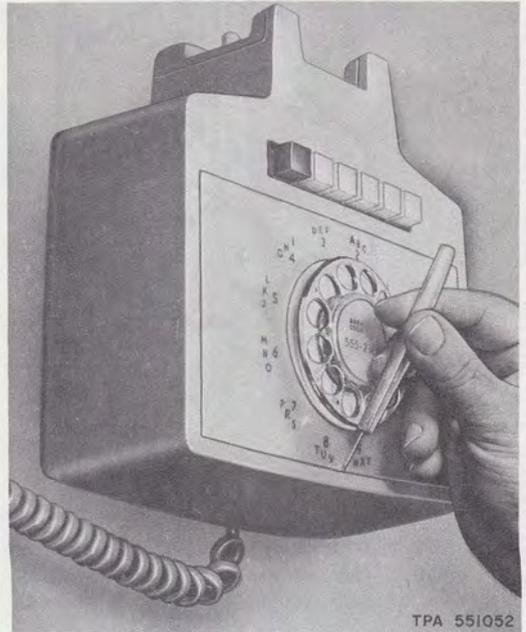

Fig. 15—Installing 851A(MD) or 852A Faceplate
- (1) Insert tabs on faceplate into slots of housing. Use a KS-21107 type releaser or equivalent to depress the tab of the faceplate retainer clip while seating the faceplate. To insure proper positioning of the retainer clip, raise the handle of the releaser well above horizontal, as shown in Fig. 15 before withdrawing the tool.
- (2) If installing 2851A faceplate (2851-type telephone set) place station number card in from front of faceplate in standard manner.
(3) If installing 2852A faceplate, an 840693253 adapter (furnished) is used to retain the station number card. Install adapter in faceplate with the two retaining tabs toward the top of the faceplate. Check for proper seating of adapter.
(4) If the latching characteristics of the 802695247 (P-269524) retainer clip is inadequate, replace with a 840155618 clip.